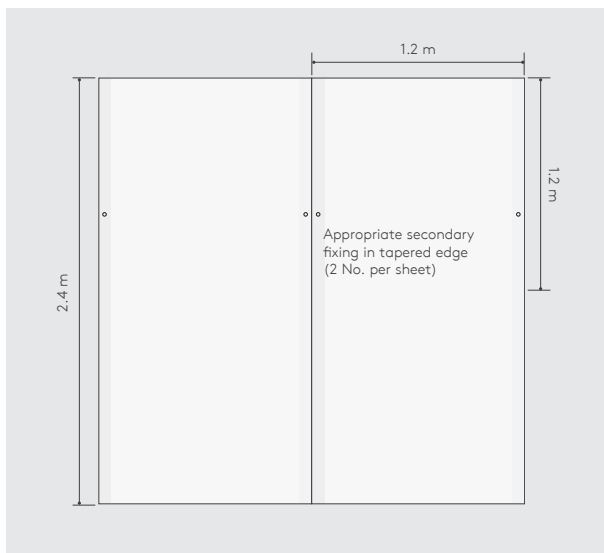

Figure 7 - Appropriate Secondary Fixing Pattern for Acrylic Sealant / PU Foam Adhesive Bonding
Figure 6 - Appropriate Secondary Fixing Pattern for Drywall Adhesive Dab Bonding Using 6 Additional Fixings (See Figure 7 for the Appropriate Secondary Fixing Pattern when using 2 Additional Fixings)
- These are normally applied at a rate of 2 No. per sheet, 15 mm in from the edge of the sheet, after the adhesive has set (see Figure 7).